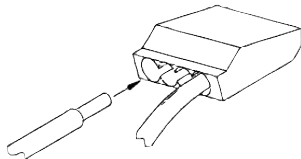

Figure 6
5. Dénuder les fils noir et blanc sur 3/8 po à 7/16 po. Voir la Fig 6
6. Connect supply (house) wires to fixture wires, push stripped wires into appropriate connector: white to white and black to black and green to green or bare copper ground wire. **See Fig 6.**
5. Pele las puntas de los cables blanco y negro para exponer de 3/8" a 7/16" (9.5 mm a 11 mm) del metal. Ver fig 6.